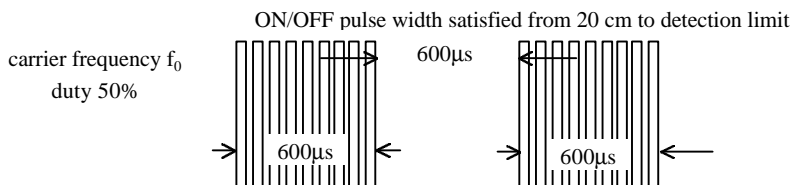

Fig 1. Burst Wave
(3) Standard transmitter ...Burst wave indicated in Fig 1. of standard transmitter